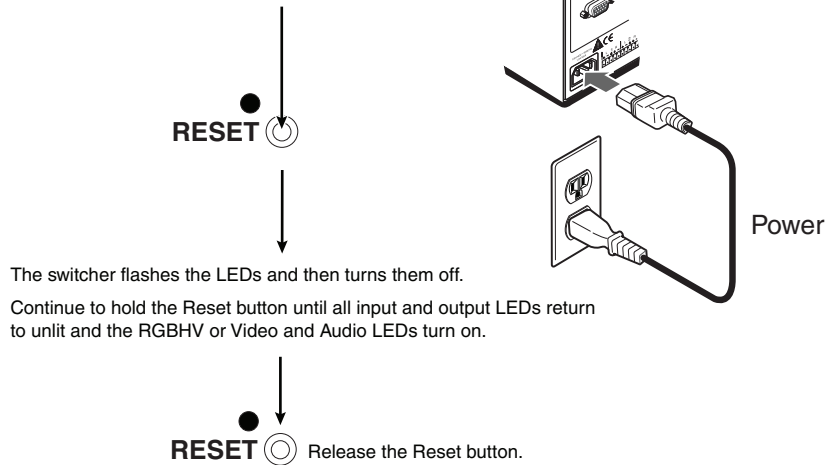

Figure 3-64 — Hard reset
2. Press and **hold** the Reset button on the rear panel **while** you apply AC power to the switcher (figure 3-64).